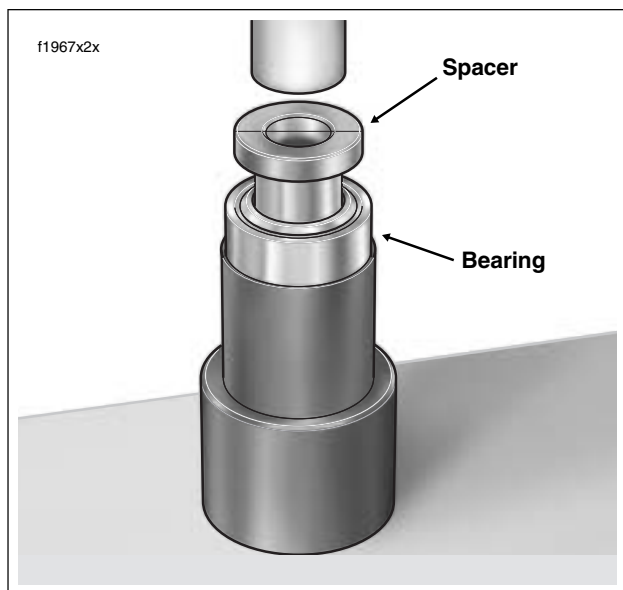

Figure 2-99. Press Spacer Into Bearing
- c. Place bearing over nose of driver. With the collar topside, place spacer over nose and into bearing. See Figure 2-99.